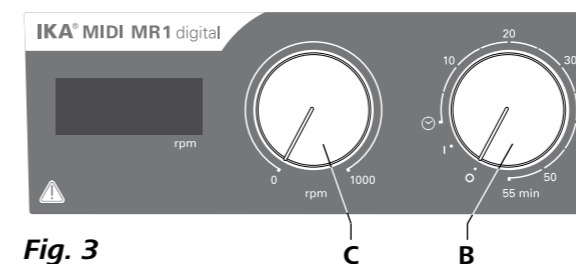

Fig. 3
- ☞ To switch the device on, turn the **"On/Off"** and **"Timer"** rotary knob (**B**, see **Fig. 3**) clockwise to the **"1"** position.
- ☞ Set the motor speed by turning the **"Speed"** rotary knob (**C**, see **Fig. 3**). The motor speed can be set to between 0 to 1000 rpm for **MIDI MR 1 digital** and 0 to 600 for **MAXI MR1 digital**.